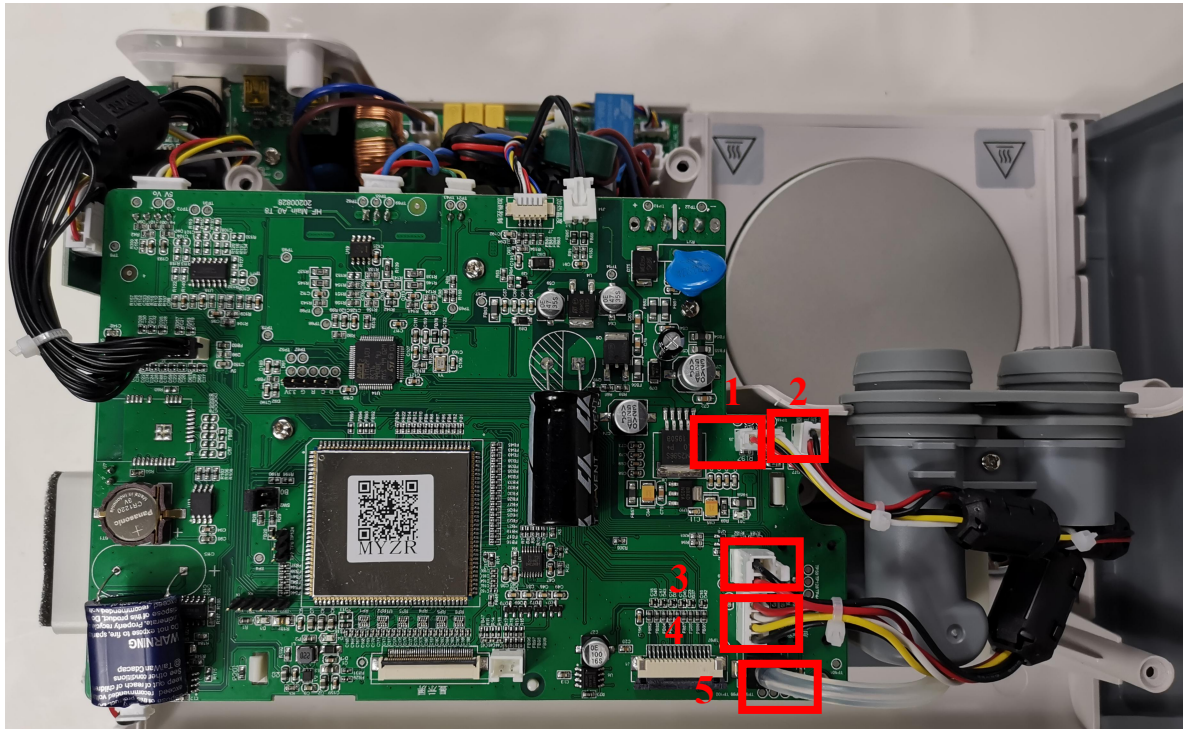

Figure3-3-1
① Unplug the connecting wire and sampling tube on the main PCBA according to the order of 1-13 shown in Figure 3-3-1, 3-3-2, and 3-3-3.